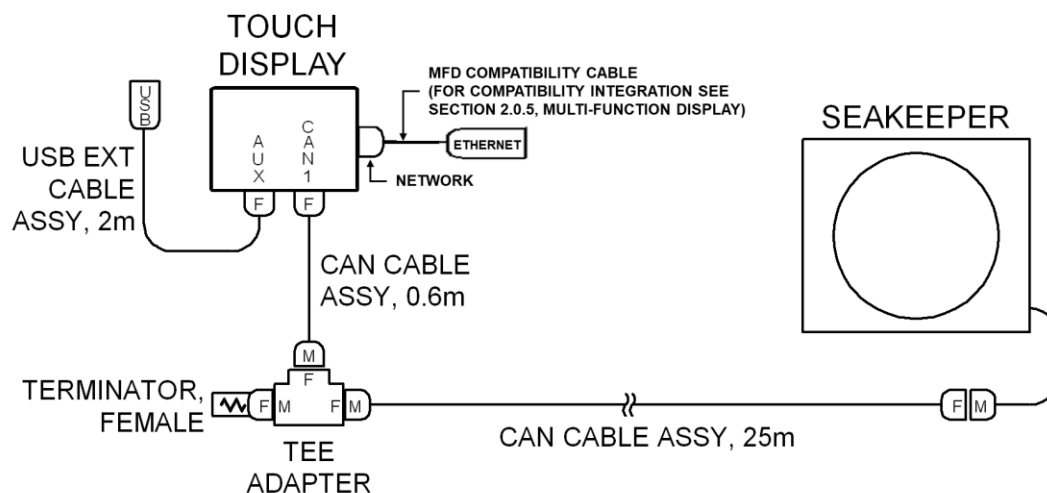

FIGURE 9 – SERIAL COMMUNICATIONS LINK FOR OPERATOR STATION
- Figure 9 below shows the CANbus communications link for the Operator Station. The Terminator goes on one the far end of the Tee Adapter from the Seakeeper.